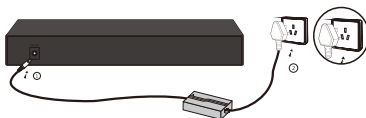

Fig.1.2.2 Power connection schematic diagram
2. The external type requires a power adapter, which can be directly connected to the 52V 2.5A mains supply; As shown in Figure 1.2.2.